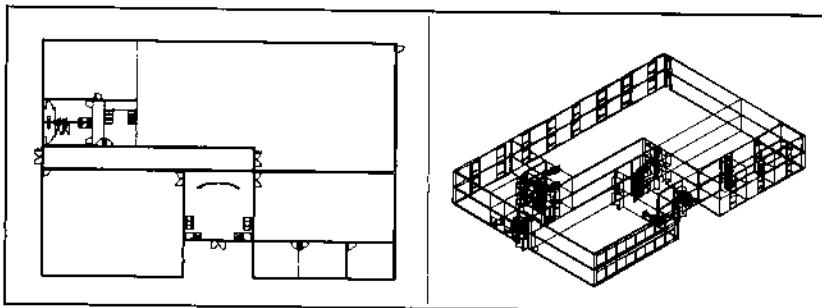

Figure 14.
4. The new layers will automatically be copied to the 10' elevation set earlier by the Set Levels command as shown in Figure 14.